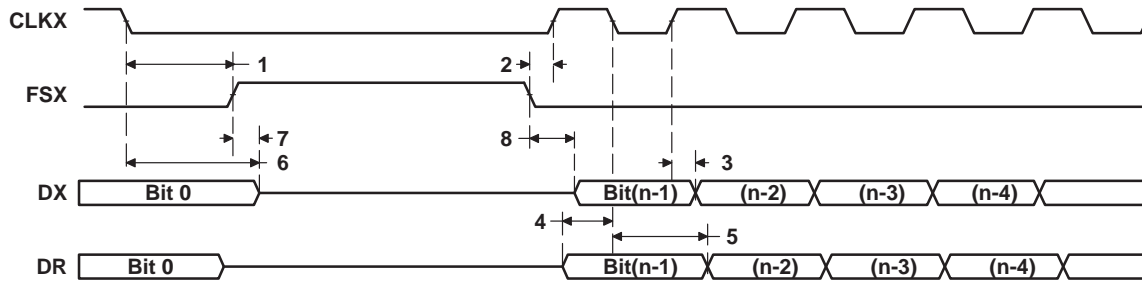

Figure 39. McBSP Timing as SPI Master or Slave: CLKSTP = 10b, CLKXP = 0
**timing requirements for McBSP as SPI master or slave: CLKSTP = 10b, CLKXP = 0†‡ (see Figure 39)**
**switching characteristics over recommended operating conditions for McBSP as SPI master or slave: CLKSTP = 10b, CLKXP = 0†‡ (see Figure 39)**